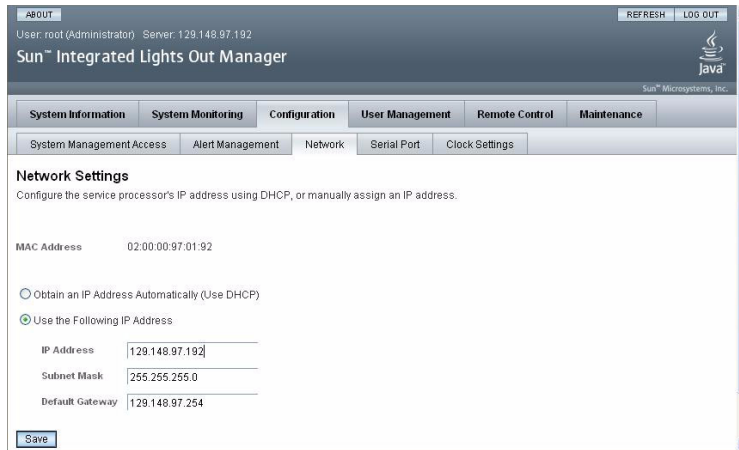

FIGURE 2-4 Integrated Lights Out Manager Network Settings Page
- 4. Choose the Configuration tab and its Network tab to display information about the current network configuration of your ILOM SP. See FIGURE 2-4.**
- 5. Select the Use the Following IP Address option and type your static IP address information. See the example in FIGURE 2-4.**